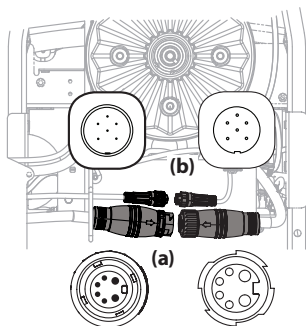

Figure 19
4. Disconnect the deck motor(s) from the adapters on the underside of the riding mower. Rotate the collar on the larger connector (a) counter-clockwise and carefully pull apart. Repeat the procedure with the smaller connector (b). See Figure 19.
6. Reconnect the deck motors on the underside of the riding mower. Always connect the larger connector first and then the smaller connector. See Figure 19.